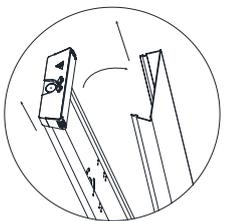

fig.3.
- Refit the diffuser by sliding the end of inside of the locked end cap as shown in fig.3.